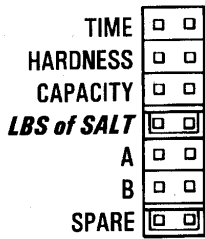

Figure 8
6. Place the jumper on the pins marked **LBS of SALT** (Figure 8). Press the black **TIME SET** button until the correct salt value is displayed. The salt range is 1 to 30 pounds. Refer to the Salt and Capacity Setting chart (Table 4).